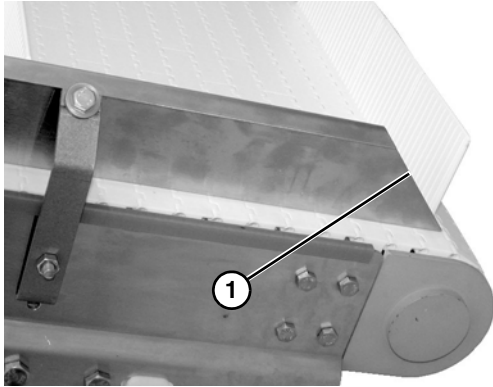

Figure 31
When installing guides, be sure that the angled end of guide is installed on the idler end of conveyor (**Figure 31, item 1**).